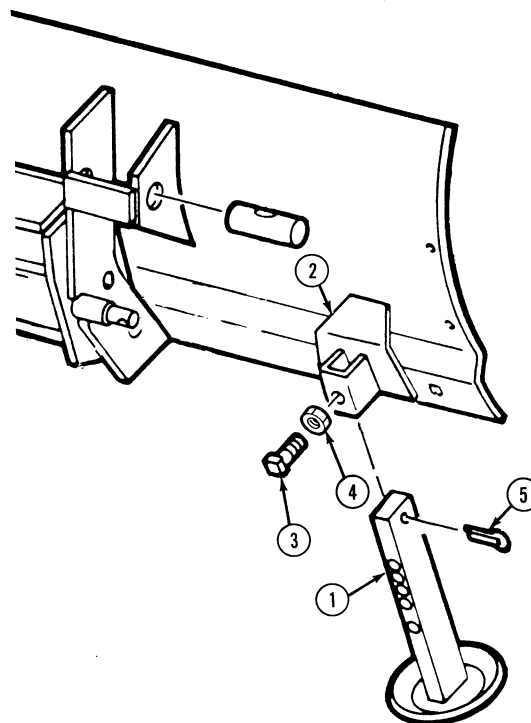

Figure 24
1. Insert the skid shoe, (1), Figure 24, into the bracket, (2), and secure using a 1/2" NC x 1-1/2" sq. hd. setscrew, (3), jam nut, (4), and 1/4" x 1" cotter pin, (5).